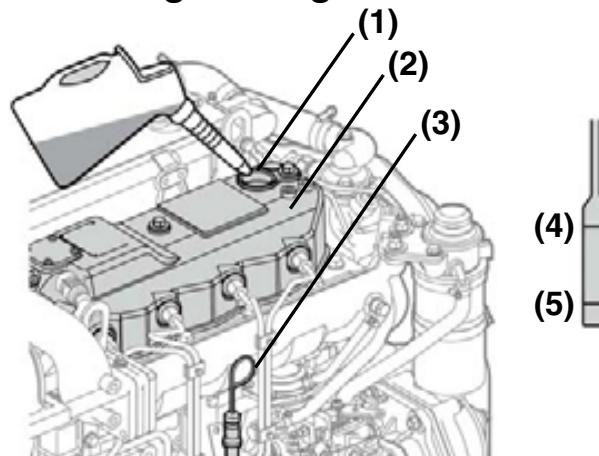

Figure 8
2. Remove dipstick (Figure 8, (3)) and wipe with clean cloth.
4. Remove dipstick. The oil level should be between upper (**Figure 8, (4)**) and lower (**Figure 8, (5)**) lines on the dipstick.
1. **NOTICE:** Prevent dirt and debris from contaminating engine oil. Carefully clean the dipstick and the surrounding area before you remove the cap. Remove the yellow oil filler port cap from filler port (**Figure 8, (1)**) and fill with engine oil.
2. Fill with oil to the upper limit (**Figure 8, (4)**) on the dipstick (**Figure 8, (3)**). **NOTICE:** NEVER overfill the engine with engine oil.